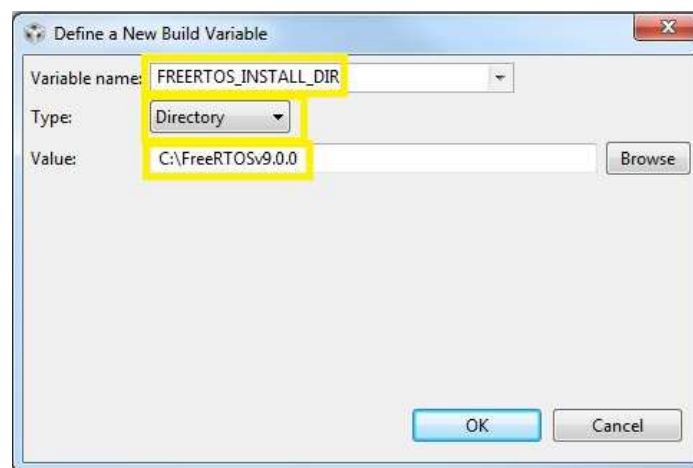

Figure 19. Code Composer Studio™ Installation – FreeRTOS Support
3. Fill the Variable name field with `FREERTOS_INSTALL_DIR` (see Figure 19).